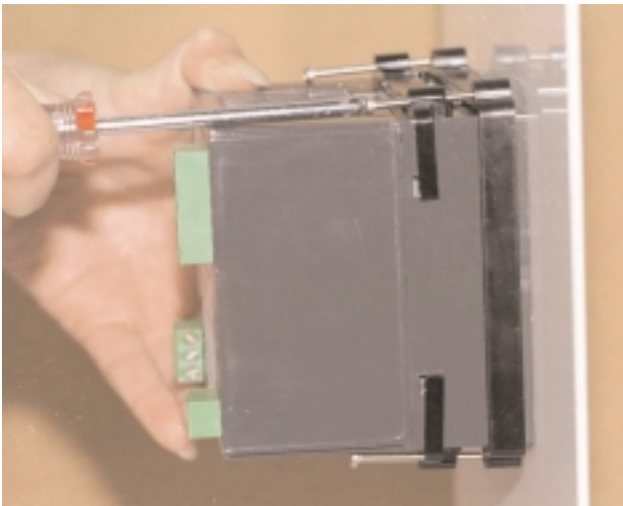

Figure 5c - Tighten screw to secure the controller.
6. Make sure the case is seated properly. Tighten the installation screws firmly against the mounting collar to secure the unit (Figure 5c). To ensure NEMA4X seal, there should be no space between the bezel and panel. Over tightening the screws will distort the case and make it difficult to remove or replace the controller.